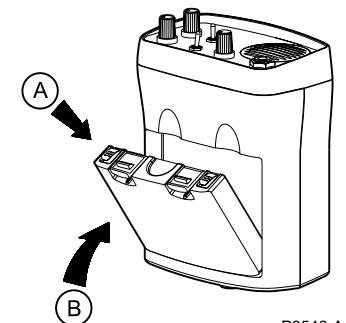

Figure 7 - Battery pack installation
- e) Place the base of the battery pack at the rear of the battery compartment (A). Push the front edge of the battery pack firmly into position (B). The two battery clips will "click" into position to securely hold your battery pack in place (Fig 7).
- b) Place the base of the battery pack at the rear of the battery compartment (A). Push the front edge of the battery pack into position (B). The two battery clips will "click" into position to hold the battery pack in place (Fig 7).